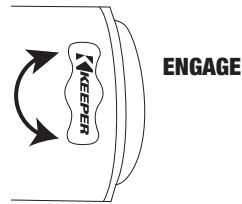

FIGURE 12
- Step 6** Lift and turn the freespool clutch handle to the Disengage position (See FIGURE 12). Pull 5 feet of wire rope off the drum. Return the freespool clutch handle back to Engaged position. Activate the Winch cable in and out by momentarily pressing the handheld pendant switch to check drum rotation direction. The switch is labeled "IN" for winching in and "OUT" for winching out. When released the switch will automatically go to the off position. **IF THIS DOES NOT OCCUR THEN REMOVE THE HAND HELD PLUG FROM THE RECEPTACLE.**
1. Lift and rotate the clutch lever to the "Disengaged" position as shown in **Figure 12**. If there is a load on the wire rope, the clutch lever may not turn easily. **DO NOT FORCE THE CLUTCH LEVER**. Release tension on the wire rope by jogging out some of the wire rope, then try releasing the clutch.
3. Check that there are at least five (5) wraps of wire rope left on the drum.
4. Re-engage the drum by lift and rotating the clutch lever to the "Engaged" position, apply power to engage clutch (**see Figure 12**).